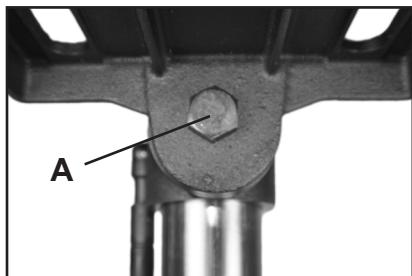
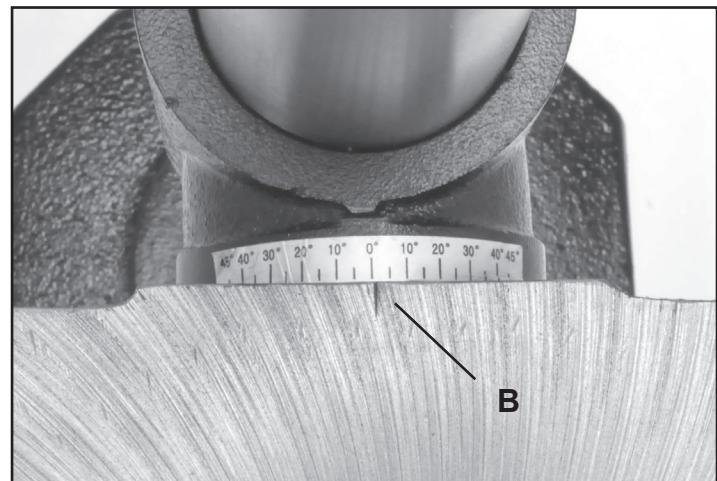

FIG. 8
FIG. 9
8. TABLE TILT: The drill press table will tilt 0-45 degrees left and right. To tilt, loosen the nut located under the table (FIG. 8, A). Align the "zero" mark on the table (FIG. 9, B) to the desired degree marking on the scale.